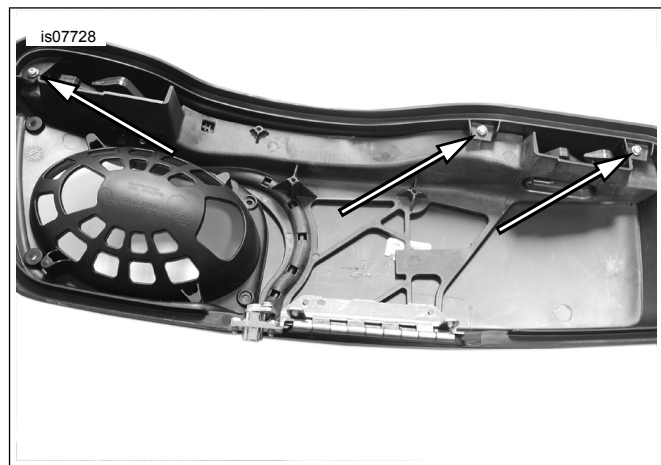

Figure 5. Latch Assembly Screws
- See Figure 5. Install three of the original four latch assembly screws. Tighten.